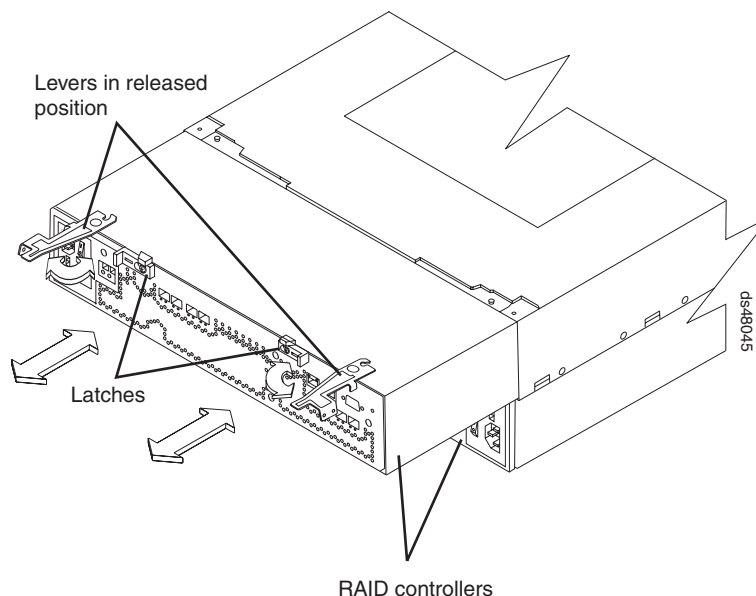

Figure 91. Removing a controller from the DS4800
10. Release the controller levers and remove the failed controller. Figure 91 shows the controller sliding from the storage subsystem chassis.